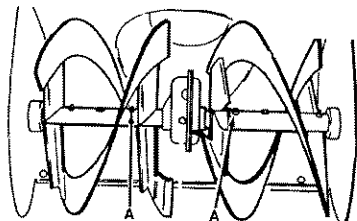

Figura 84
1. **Auger Shaft** - Using a hand grease gun, lubricate the auger shaft zerk fittings (A) every ten (10) operating hours. Each time a shear bolt is replaced, the auger shaft MUST be greased. See Figura 84. See **To Replace Auger Shear Bolt** in the **Service and Adjustment** section.